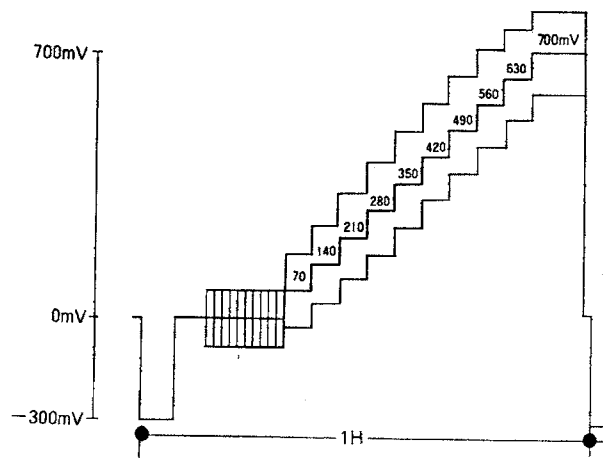

Figure 5.15
5.5.1 5 STEP and 10 STEP Pattern (See Figure 5.15)